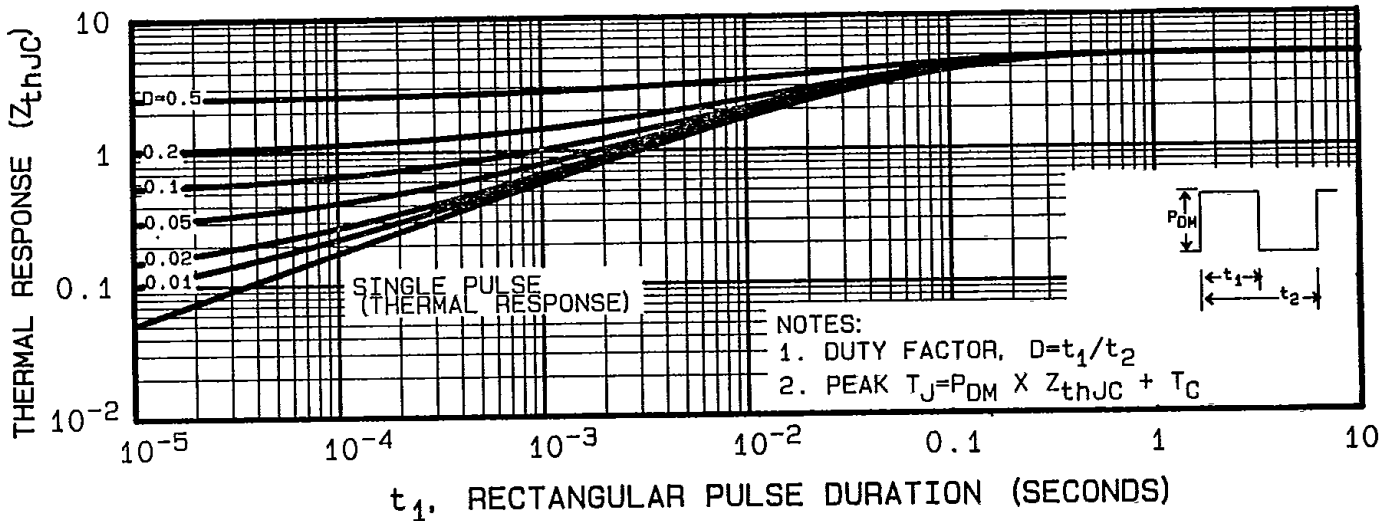

Fig. 5 — Maximum Effective Transient Thermal Impedance, Junction-to-Case Vs. Pulse Duration
- ① Repetitive Rating; Pulse width limited by maximum junction temperature (see figure 5)
- ② @ $V_{DD} = 25\text{V}$, Starting $T_J = 25^\circ\text{C}$, $L = 100\mu\text{H}$, $R_G = 25\Omega$, single pulse.
- ③ $I_{SD} \leq 8.2\text{A}$, $di/dt \leq 130\text{A}/\mu\text{s}$, $V_{DD} \leq 40\text{V}$, $T_J \leq 150^\circ\text{C}$, Suggested $R_G = 24\Omega$
- ④ Pulse width $\leq 300\mu\text{s}$; Duty Cycle $\leq 2\%$
- ⑤ $K/W = ^\circ\text{C}/\text{W}$, $W/K = \text{W}/^\circ\text{C}$
- ⑥ Mounting pad must cover heatsink surface area. See case style drawing on front page.